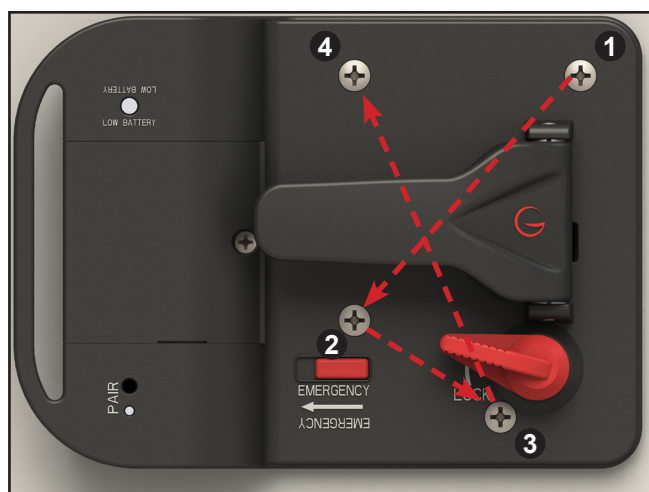

Fig.15
9. Tighten hardware on the back side of the Locking Mechanism in an 'X' pattern (Fig. 15).